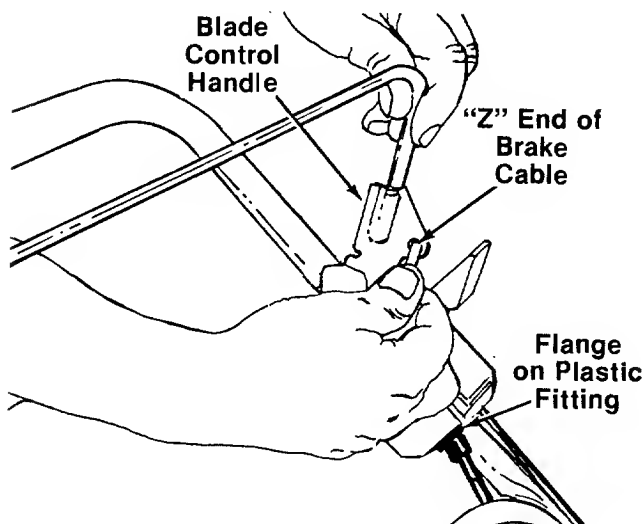

FIGURE 6.
- ← 9. Snap the plastic fitting on the end of the cable into the control housing. Hook the "Z" end of the brake cable into the hole in the blade control handle. See figure 6. If additional slack is needed in order to hook the cable into the handle, proceed as follows.